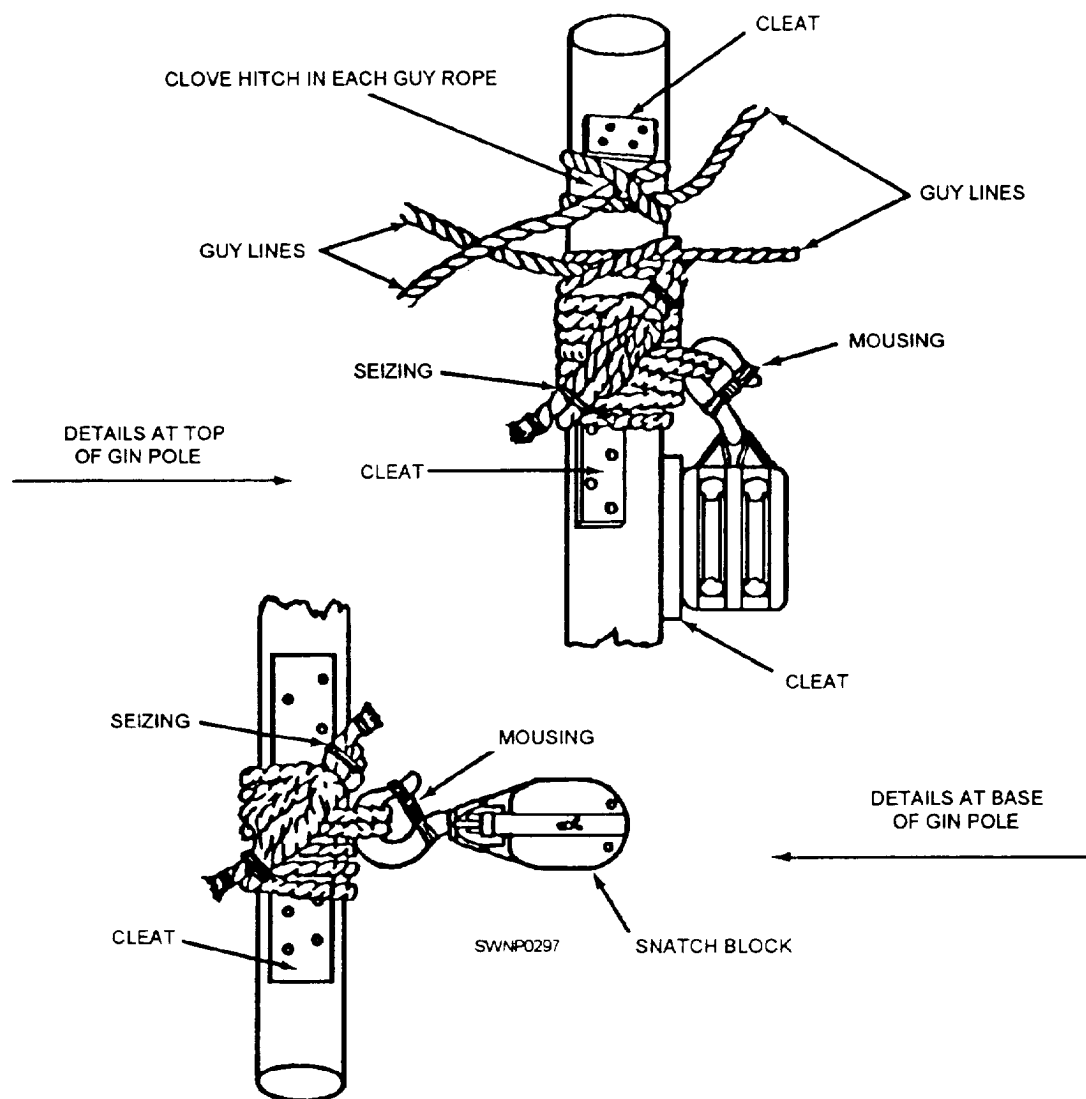

Figure 6-50.—Lashing for a gin pole.
1. *Rigging.* When rigging a gin pole, lay out the pole with the base at the exact spot where it is to be erected. To make provisions for the guy lines and tackle blocks, place the gin pole on cribbing for ease of lashing. Figure 6-50 shows the lashing on top of a gin pole and the method of attaching guys. The procedure is as follows: